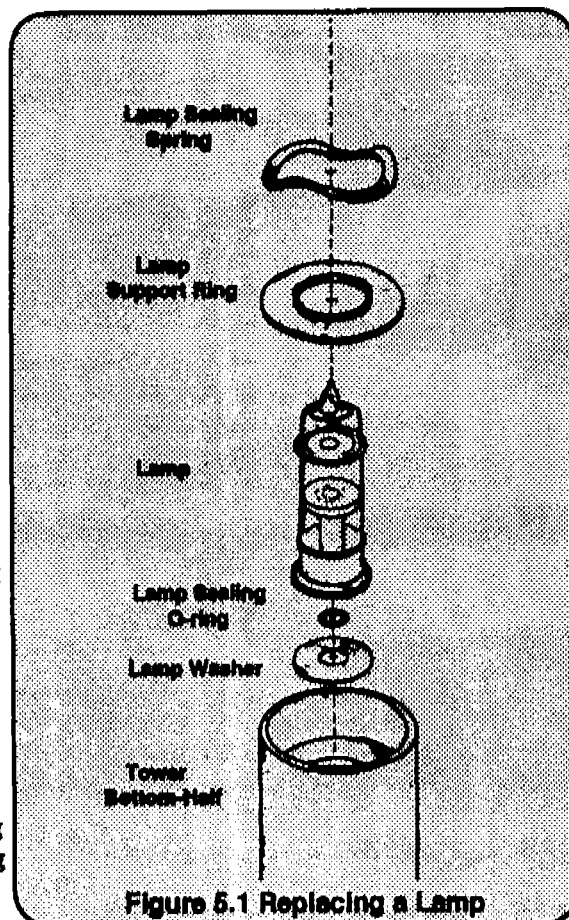

Figure 5.1 Replacing a Lamp
Be sure that the o-ring is positioned concentric in its sealing area before placing the lamp on top of it. Reference Figure 5.1 if necessary for re-installation.
- Refer to Figure 5.1 if necessary, to insert a new lamp, first placing the o-ring in the sensor.
The lamp window is fogged, the sensor has a leak, or the sweep or makeup gases are way too high. Check response with a fresh lamp, watching for proper positioning of the sealing o-ring (reference Figure 5.1). Recheck gas flows to detector.